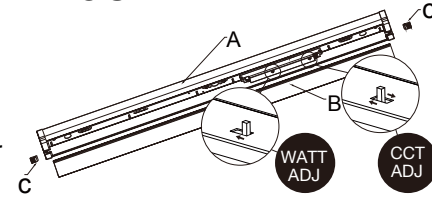

FIGURE 2
- Install the two screws (AA) into the junction box. (Figure 2)